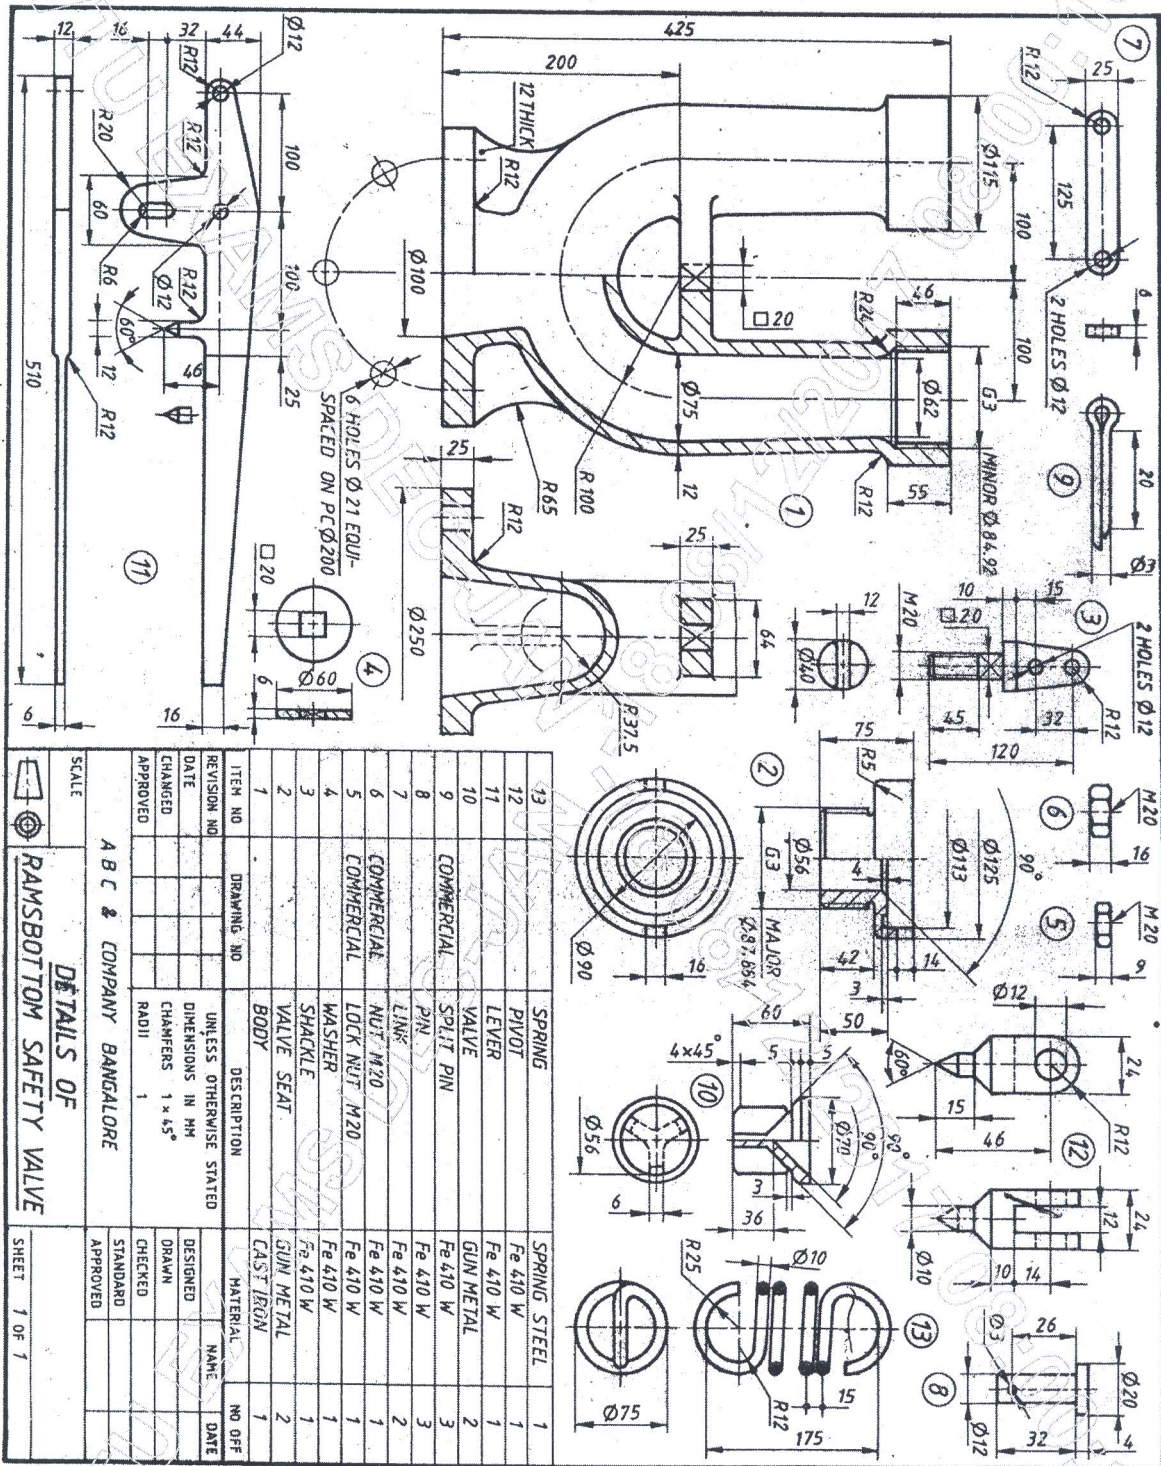

Figure.3 RAMS BOTTOM SAFETY VALVE
Q.No.6 Details of RAMS BOTTOM SAFETY VALVE. is shown in following Figure 3. Assemble the parts and draw the following views.